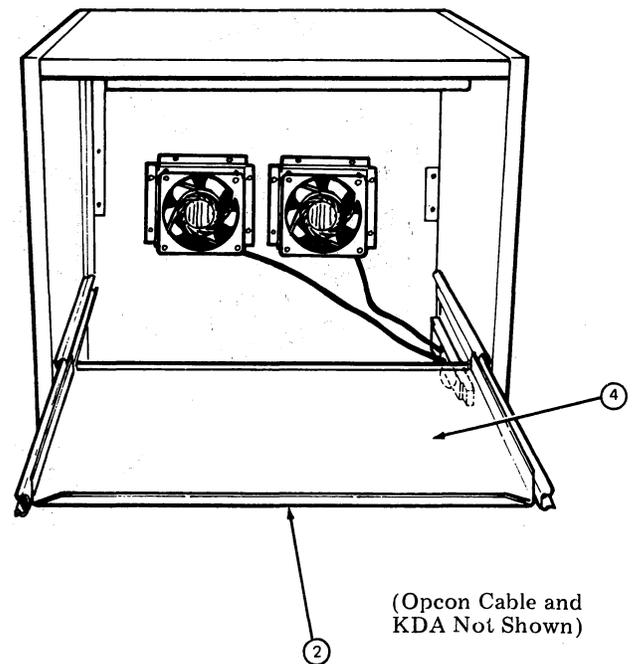

Fig. 13
6.03 The opcon, KDA and monitor should be removed to thoroughly clean the KD enclosure interior (Fig. 13).
- ① Unlock and open front cover assembly.
- ② Disconnect opcon cable from KDA and remove opcon.
- ③ If necessary, disconnect monitor and controller cables from KDA and remove KDA.
- ④ Carefully slide monitor forward, remove hold down bolt and lift out.
- ⑤ Thoroughly vacuum and wipe all foreign matter from interior of enclosure. It is not necessary to remove utility strip to clean interior.
- ⑥ Brush and/or wipe any foreign material away from the KDA, monitor and opcon before reinstalling in enclosure.